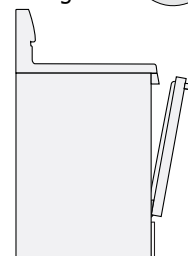

Fig. 3
7. **Keep the oven door open** to the broil stop position when broiling (See Fig. 3).